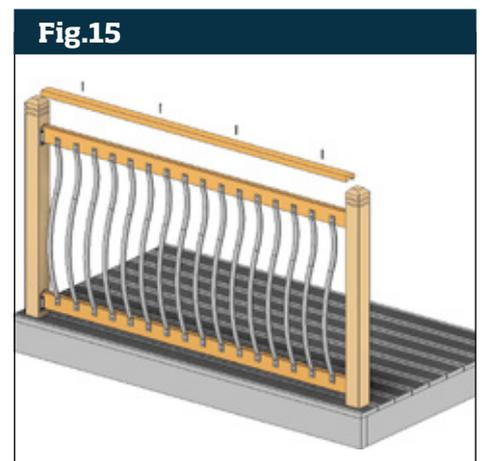

**Fig.13**
- Measure distance between centres of first and last balusters (**Fig.13**).